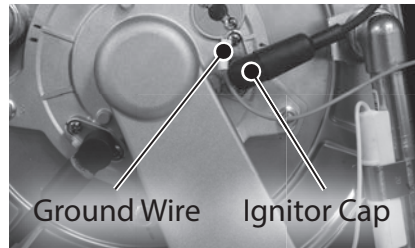

Figure 72 - Remove ignitor rod cap
- 5 Locate the ignitor rod on the burner assembly as shown in Figure 72. Remove the cap from the ignitor rod. **DO NOT** pull on wires.
- 6 Disconnect the green ground wire at the ignitor rod as shown in Figure 72. Route the wire inside the water heater cabinet for ease of access to ignitor rod.
- 7 Use a Phillips screwdriver to remove the two (2) screws securing ignitor rod to the burner assembly. Place screws aside in a safe place for reinstallation.